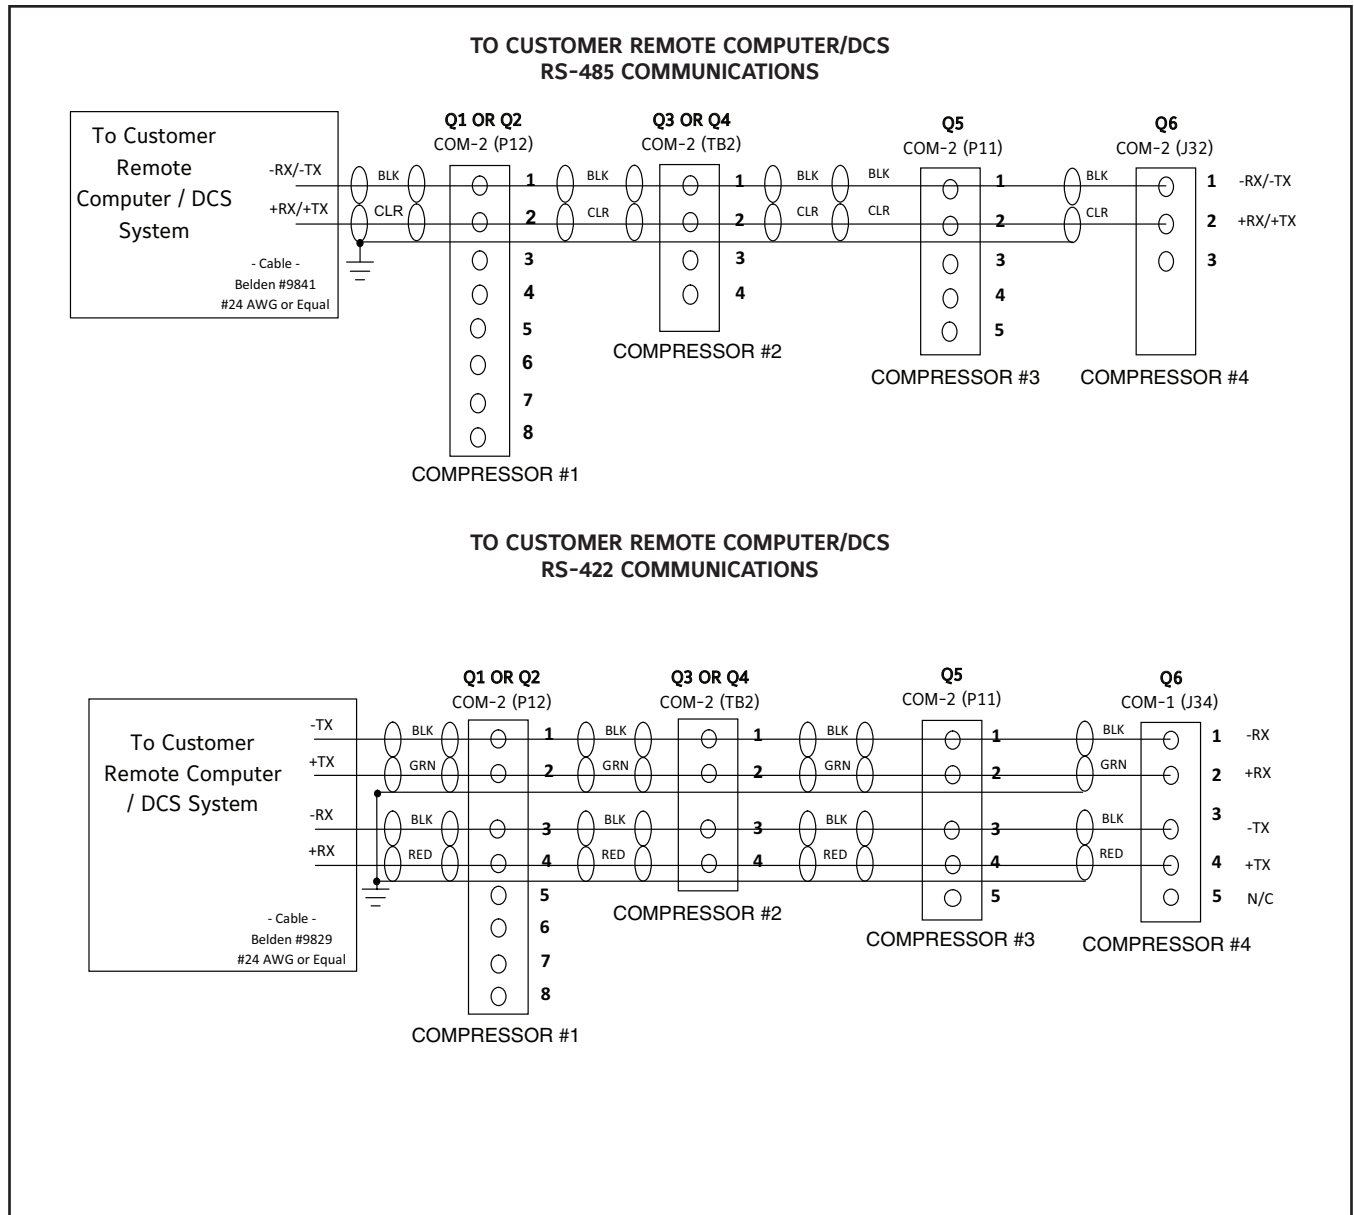

Figure 37: Wiring Diagram - Communications Wiring Diagrams
- Page 119 - Updated Figure 37 with Q6 info